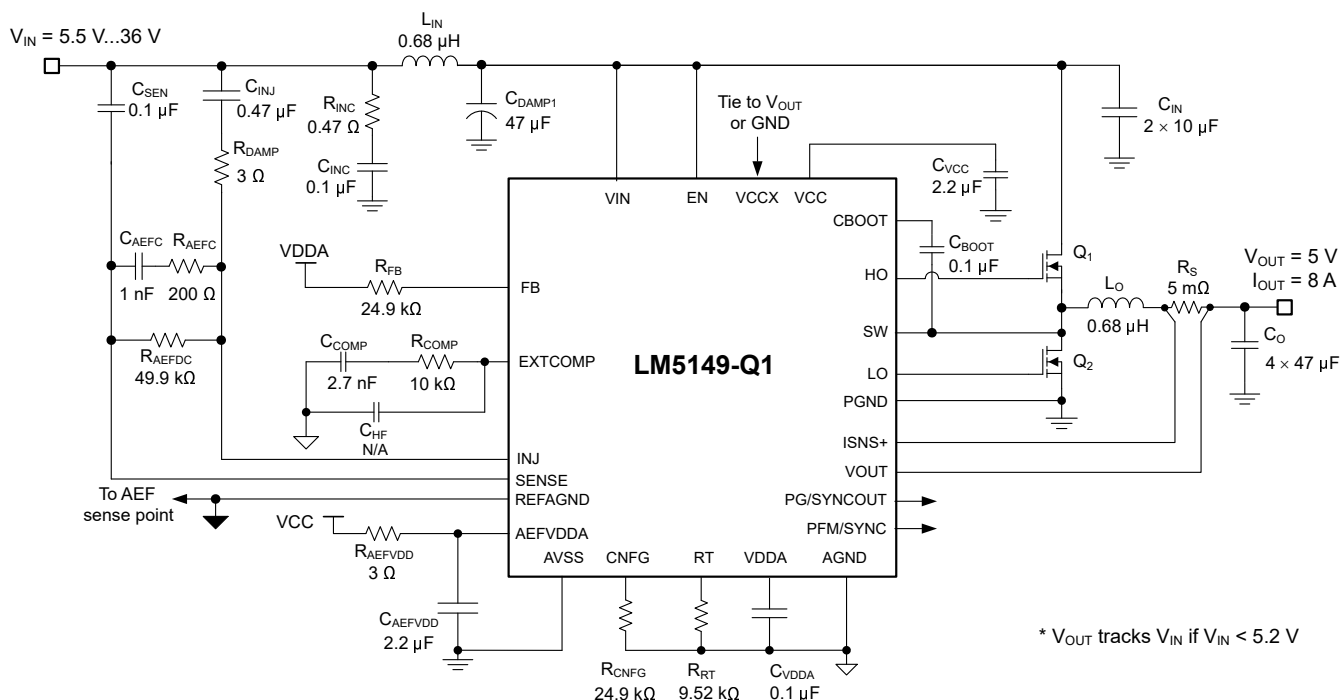

**Figure 9-4. Error Amplifier and Compensation Network**
Figure 9-4 shows a type-II compensator using a transconductance error amplifier (EA). The dominant pole of the EA open-loop gain is set by the EA output resistance,  $R_{O-EA}$ , and effective bandwidth-limiting capacitance,  $C_{BW}$ , as shown by Equation 29.